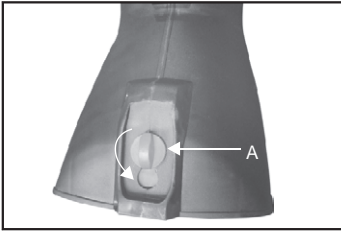

Fig. 5A
1. Rotate the rake knob (A) 90 anticlockwise and then the rake will automatically pup-up. (Fig. 5A)